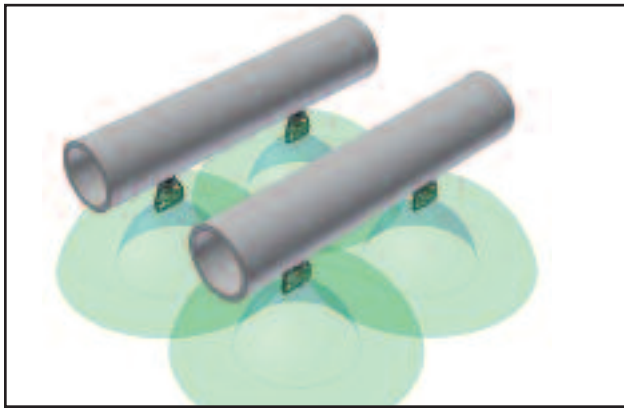

Figure 7 - Nozzle Spray Distribution
3. Check to see if the nozzles are producing the spray pattern shown in figure 7 for coil products only.